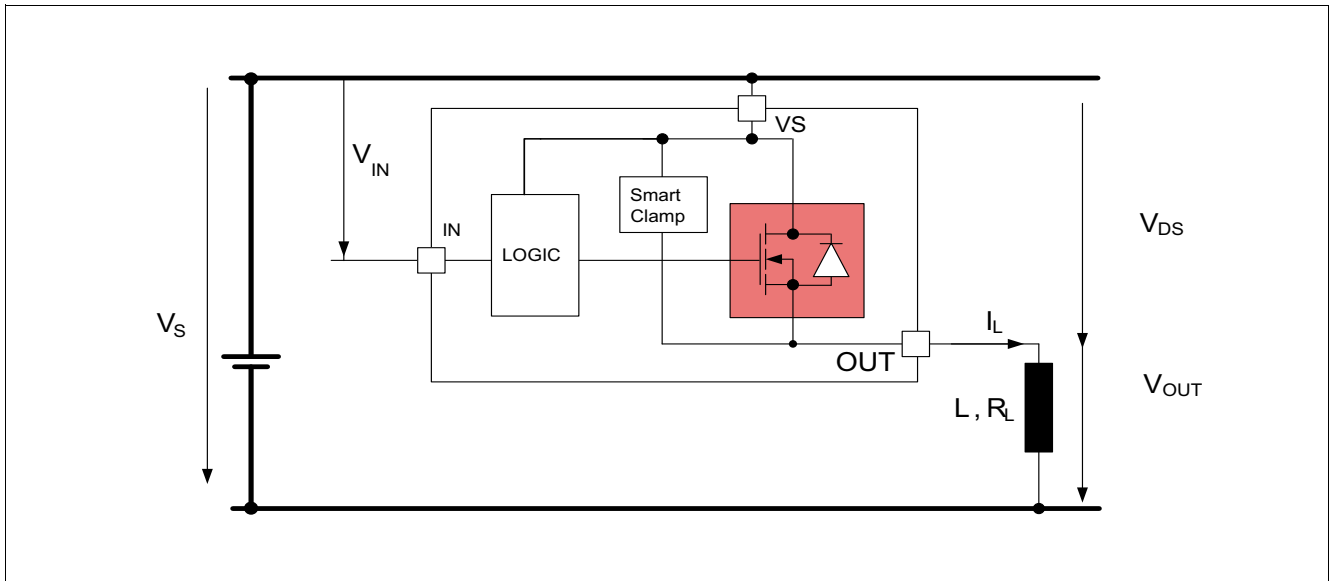
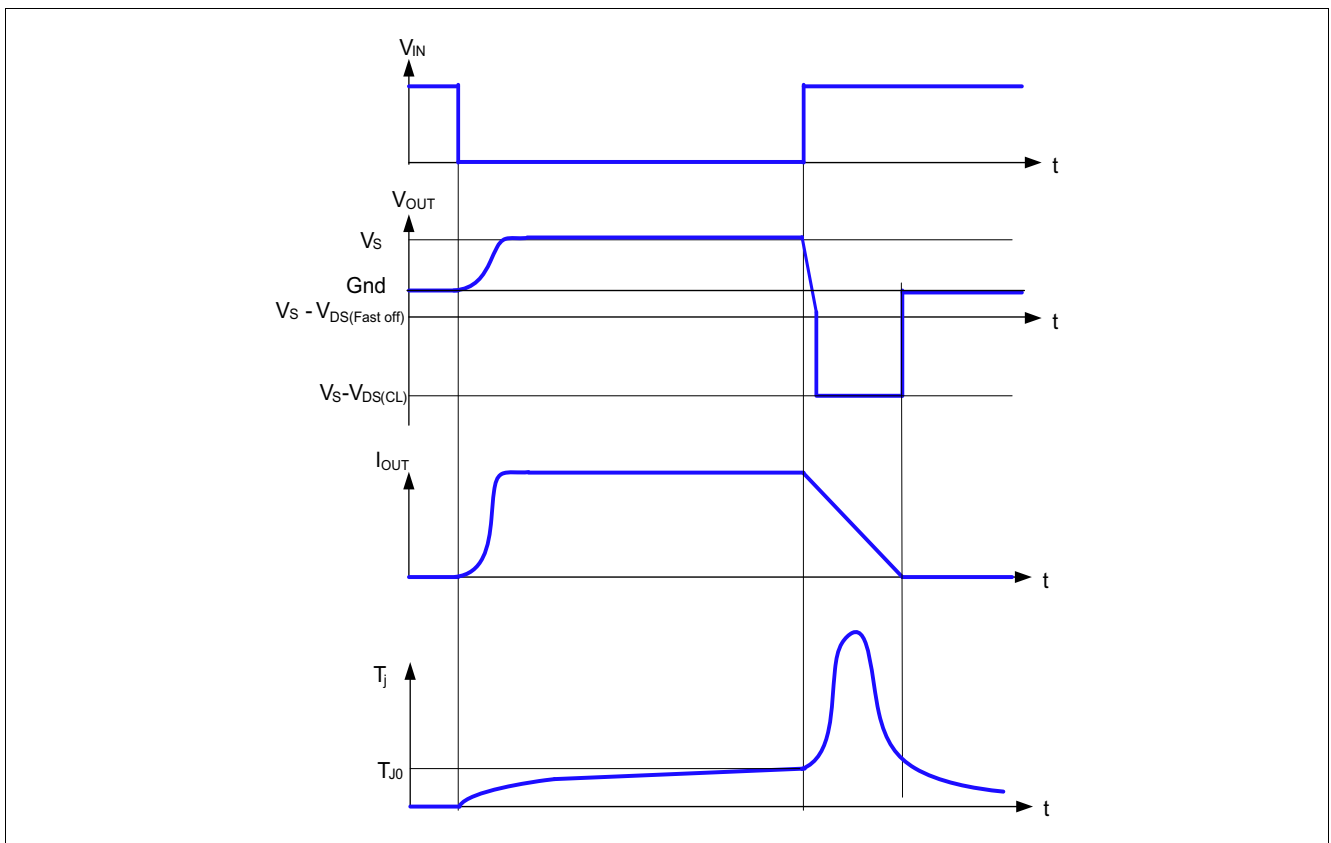

Figure 5-2 Output Clamp
Figure 5-3 Switching an Inductance
When switching OFF inductive loads with high side switches, the voltage V_{OUT} drops below ground potential, because the inductance intends to continue driving the current. To prevent the destruction of the device due to high voltages, there is a Infineon® SMART CLAMPING mechanism implemented that keeps negative output voltage to a certain level ($V_S - V_{DS(CL)}$). Please refer to Figure 5-2 and Figure 5-3 for details. Nevertheless, the maximum allowed load inductance remains limited.
- The device is commanded off by applying $V_{\text{IN(L)}}$ at the IN pin. During the switch OFF operation the OUT pins' voltage in respect to VS pin drops below $V_{\text{ds(fast off)}}$. See **Figure 5-3**.